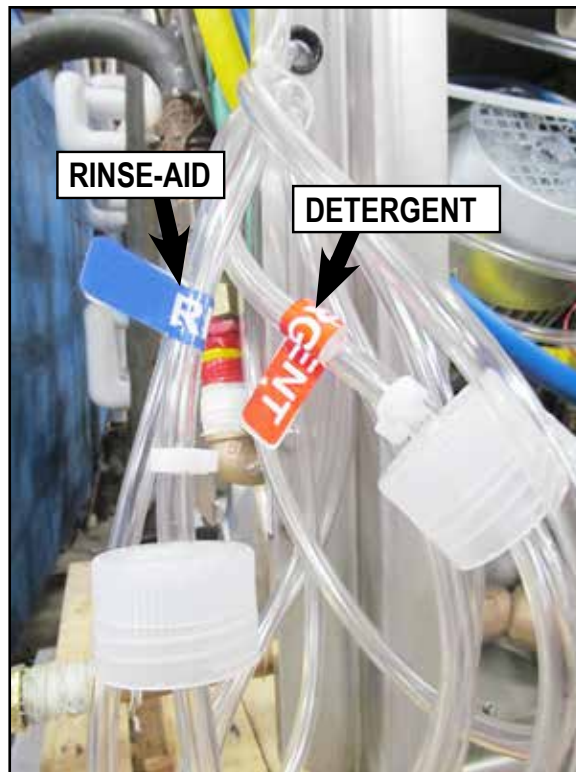

Fig. 27 - Red indicates detergent, blue indicates rinse-aid.
2. The machine is equipped with chemical pick-up tubes. A red label identifies the detergent and a blue label identifies the rinse-aid, (Fig. 27).